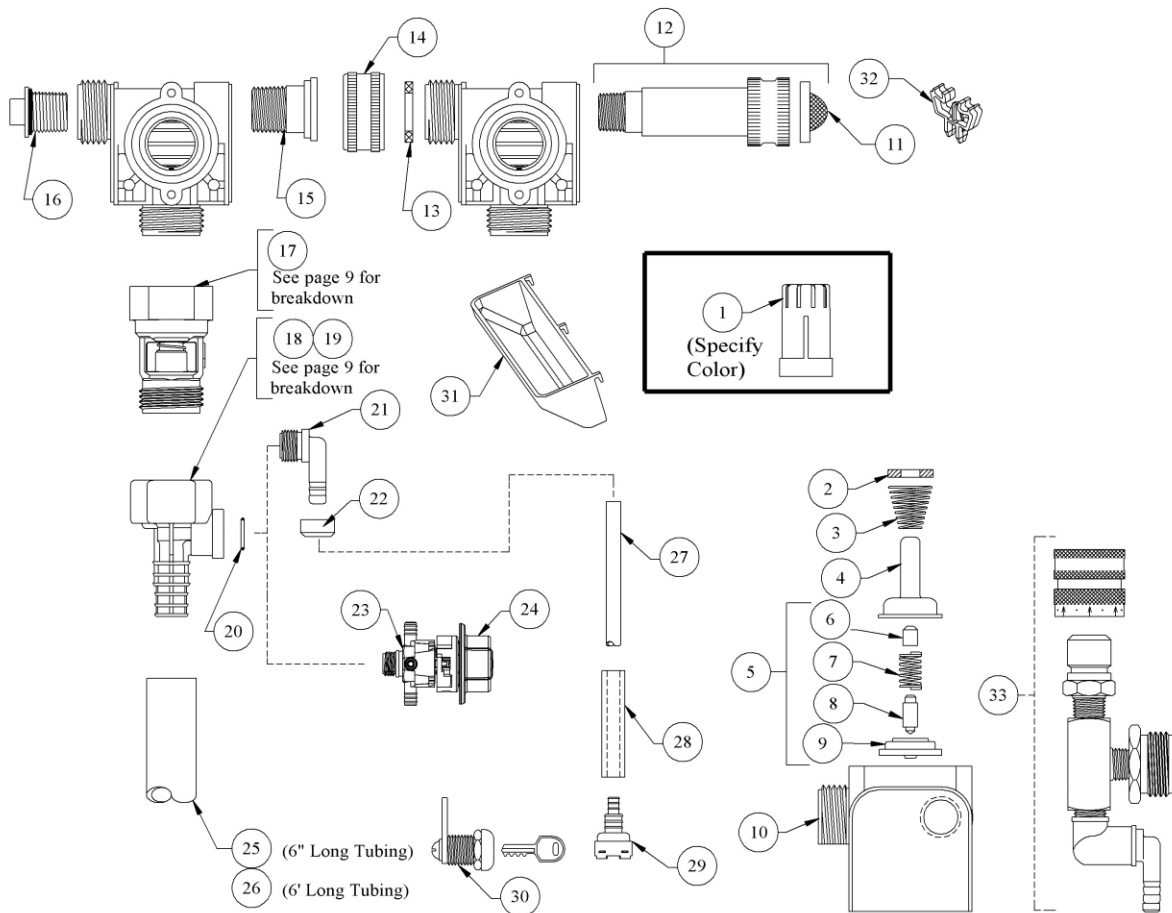

**FIGURE 4**
- B. **PRESSURE INDICATING TEE INSTALLATION:** Screw female quick disconnect to faucet and attach pressure indicating tee to female quick disconnect. Attach female end of reinforced hose to male threads of tee, then attach the male end to the female garden hose fitting at the water inlet of the Blend Safe (See Figure 4). Water supply should not exceed 125 psi and water temperature must not exceed 150°F.